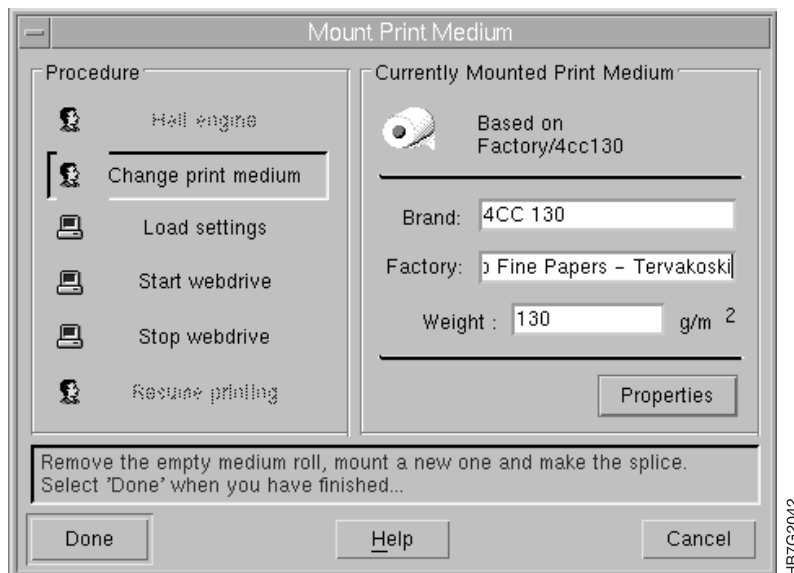

Figure 186. Mount Print Medium Window
- 1 Open the **Mount Print Medium** window, as shown in Figure 186 on page 276, by doing one of the following:
- If an alarm did not occur, first ensure that you have stopped the print engine (see “Interrupting the Printing Process” on page 215.) and then open the **Mount Print Medium**, as shown in Figure 186 on page 276.